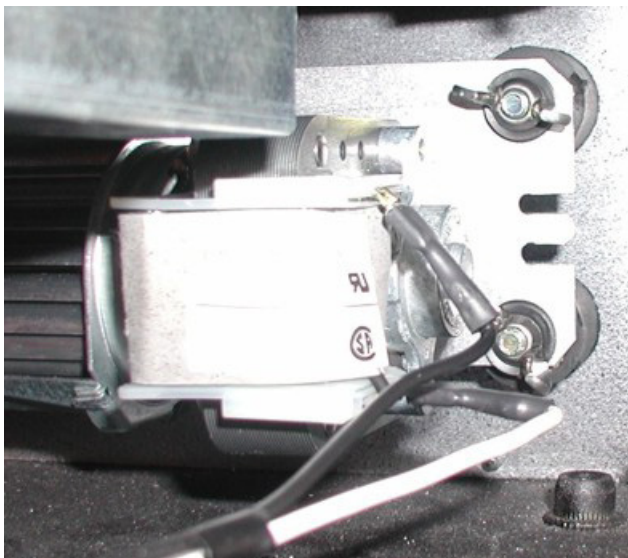

Figure 12
- Next, align the right side holes of the blower mounting plate with the right side blower mounts and install a rubber washer and 1/4-20 Wing-nut to each of the blower mount studs to secure blower assembly. See Figure 12.